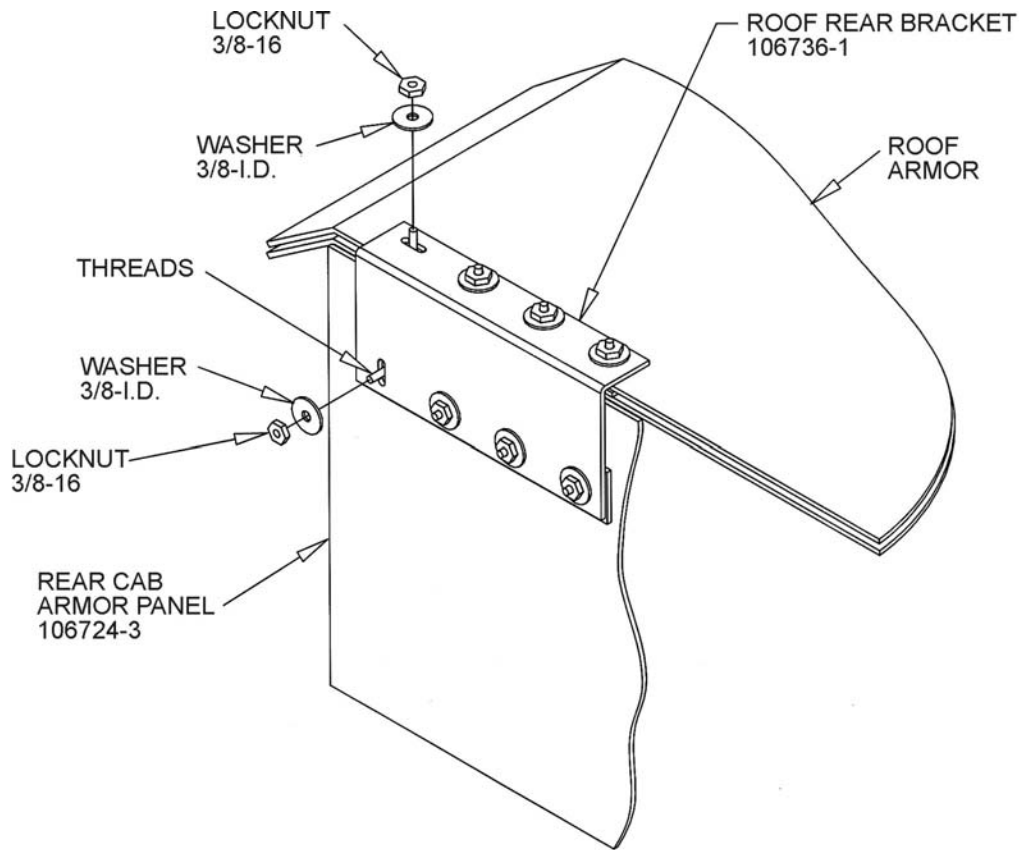

Figure 42. Position the Roof Armor Panel Rear Bracket.
Use shims (P/N 106796) on the mounts between the Rear Cab Armor Panel and the Roof Armor Panel Rear Bracket (P/N 106736-1) (See Figure 42).
- s. Install the Roof Rear Bracket (P/N 106736-1) over the exposed studs of the Rear Studplate (P/N 106780-2) and over the four bolts with a shim through the Rear Cab Armor Panel (See Figure 42).